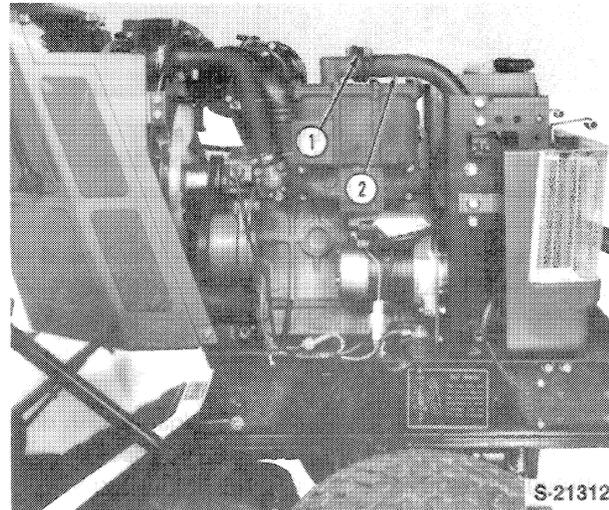

Figure 8
7. Loosen the exhaust pipe clamp (1) and remove the exhaust pipe (2), Figure 8.